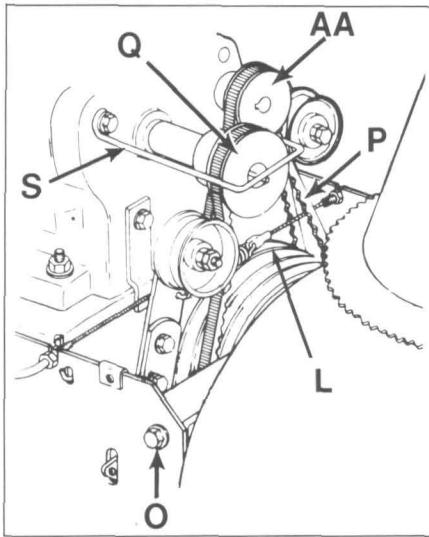
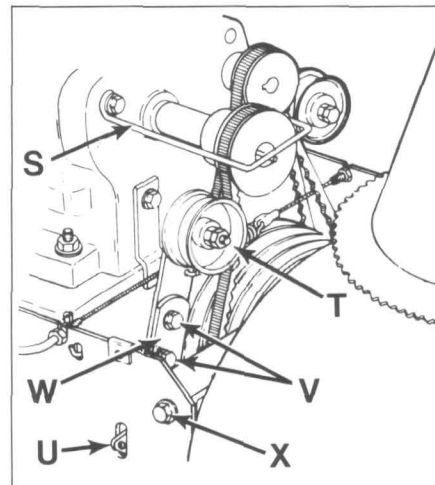

Figure 5-8
Figure 5-9
5. Make sure that the spark plug wire is disconnected and not touching the spark plug. Pull the recoil starter rope while watching the engine wheel drive pulley (Figure 5-8, Item L). The belt should not move on this pulley. If the belt does move, decrease the 3/8-inch gap you set in Step 3.
3. Remove the two (each side) flange screws (Figure 5-8, Item O) from the snowthrower.
5. Take the auger drive belt (Figure 5-8, Item P) off the engine auger drive pulley (Figure 5-8, Item Q). You may have to loosen the bolt that secures the belt guide (Figure 5-8, Item S) to the back of the engine and move the belt guide out of the way.
4. Retighten bolt that attaches belt guide (Figure 5-8, Item S) to engine.
5. Move the rear half of the snowthrower close to the front half. Place the auger drive belt onto the engine auger drive pulley (Figure 5-8, Item Q).
6. Move the snowthrower halves together. Align the four attachment holes (two in each side of the frame). Loosely install the four screws (Figure 5-8, Item Q) that secure the halves of the snowthrower together. Then firmly tighten the screws.
2. Push the idler (Figure 5-9, Item T) sideways to tighten the auger drive belt.
3. Look at the brake arm hole (Figure 5-9, Item U). This hole should be flush with the outside of the right-hand side of the frame.
4. If the brake arm hole is not flush with the outside of the right-hand side of the frame, loosen the two screws (Figure 5-9, Item V) and move arm (Figure 5-9, Item W) sideways as necessary. Tighten the two screws and then repeat Steps 2 and 3.
3. Remove the two (each side) flange screws (Figure 5-9, Item X) from the snowthrower.
5. Take the auger drive belt (Figure 5-8, Item P) off the engine auger drive pulley (Figure 5-8, Item Q). You may have to loosen the bolt that secures the belt guide (Figure 5-9, Item S) to the back of the engine and move the belt guide out of the way.
3. Retighten the bolt that secures the belt guide (Figure 5-9, Item S) to the engine.
5. Move the snowthrower halves together. Align the four attachment bolt holes (two on each side). Loosely install the screws (Figure 5-9, Item X) that secure the halves of the snowthrower together. Firmly tighten these screws.